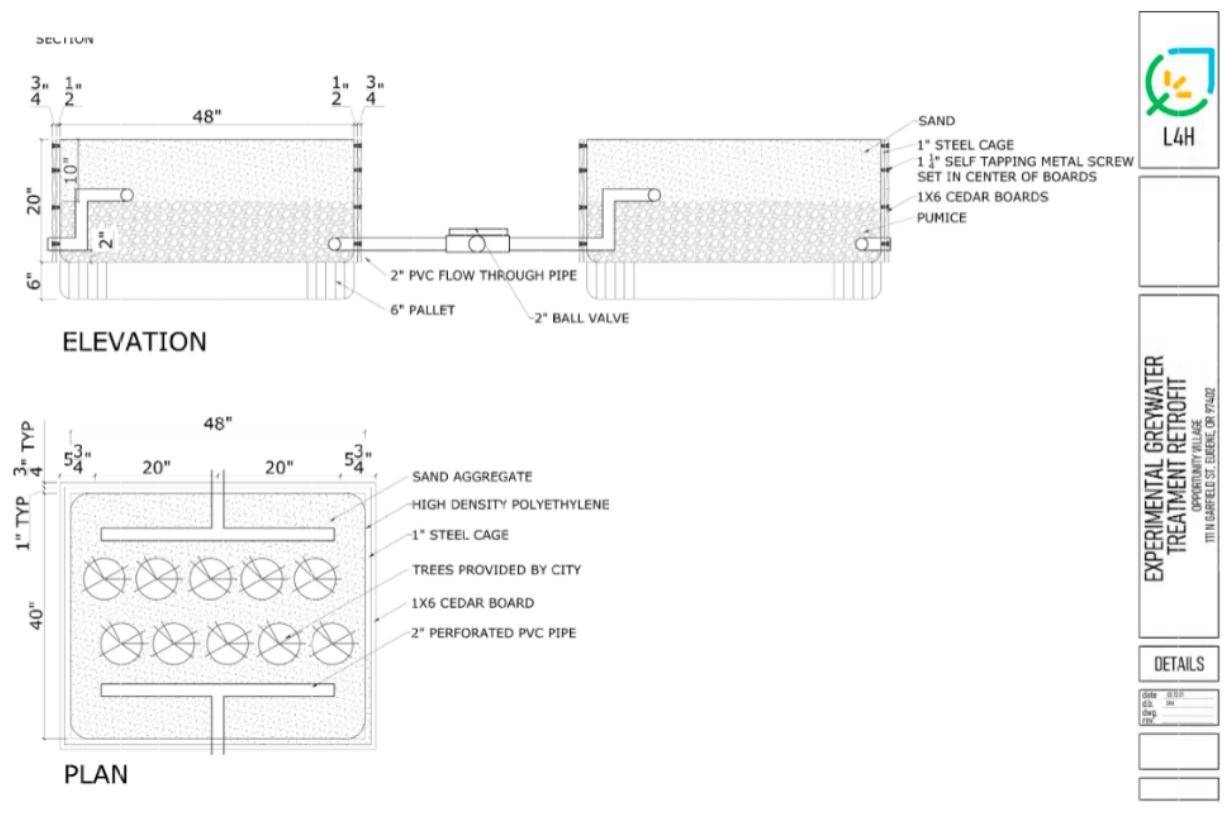

Fig. 2
• Figure 2 - Greywater model example by L4H (Page 4)